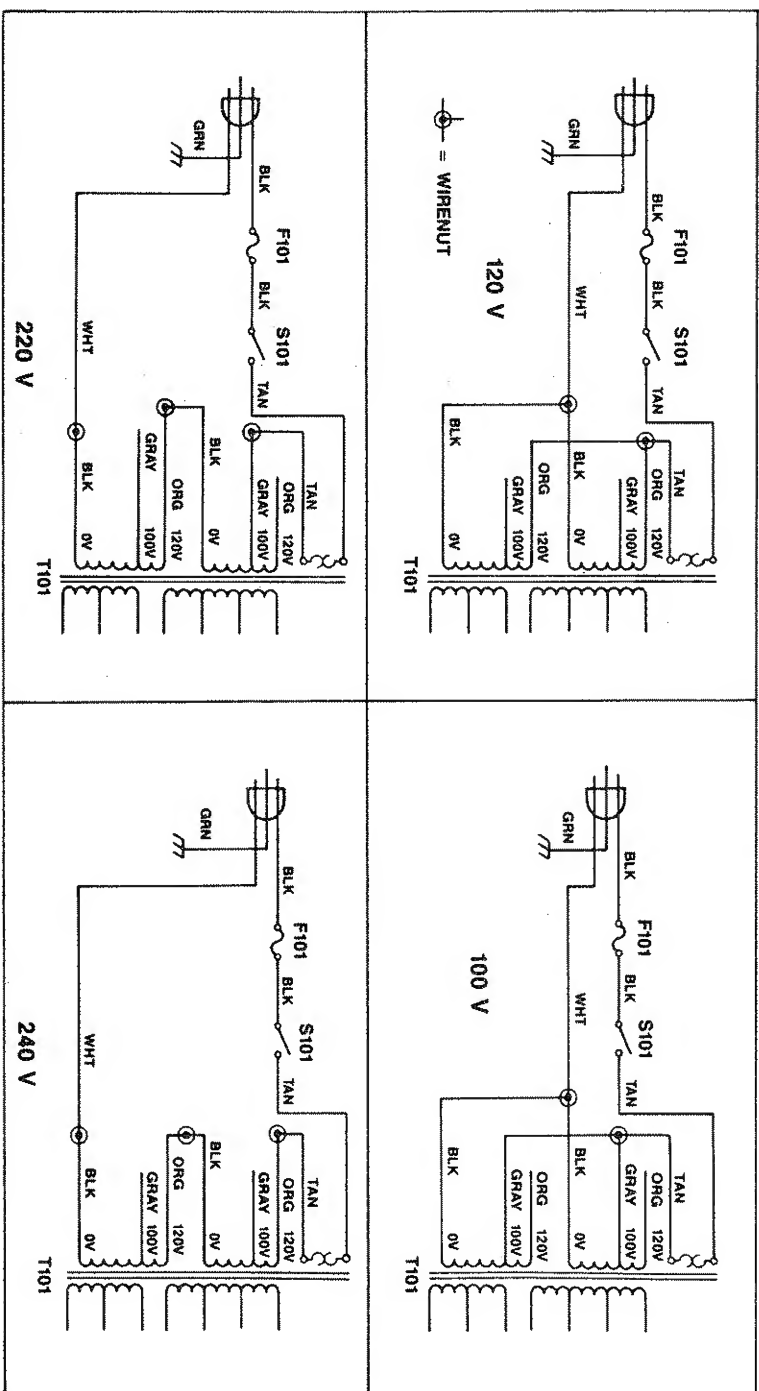

Fig. 10. Line Voltage Conversion.
The primary winding of the power transformer is tapped to permit operation from 100, 120, 220, or 240 VAC, 50/60 Hz line voltage. Conversion from one line voltage to another is done by a simple wiring change as shown in Fig. 10.
3. Rewire the power transformer to the desired line voltage as shown in Fig. 10. Insulate the ends of the unused transformer tap wires.